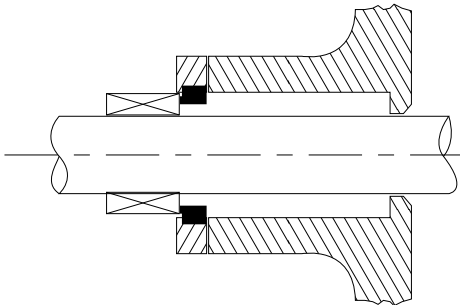

FIGURE 41. Single External Seal
- The rotating seal assembly is located outside the liquid. The seal is normally mounted outside the stuffing box (Figure 41).